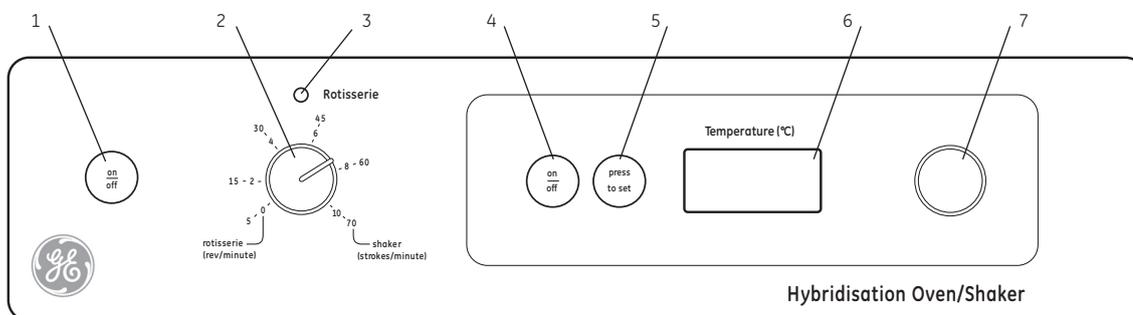

Fig 1. Diagram of instrument control panel
5. Turn the Mains ON/OFF switch (1 on Fig 1) to the ON position.
1. The Oven temperature controls are located on the right hand side of the control panel (numbers 4 to 7 in figure 1).
2. To turn the temperature control ON press the on / off button (4). The LED display (6) will show the current Oven temperature.
3. To set the temperature, press and hold the press to set button (5) and at the same time rotate the temperature selector dial (7) until the required temperature is shown on the digital display (6).
4. Release the press to set button (5) and the temperature display (6) will revert back to the actual Oven temperature.
5. The set temperature can be viewed at any time simply by pressing and holding the press to set button (6)
6. The speed controls are on the left hand side of the control panel (numbers 1 to 3 in figure 1). Turn the Rotisserie/Shaker ON by pressing the on / off button (1). The red indicator light (3) above the speed selector dial (2) will illuminate.
7. Turn the Rotisserie/Shaker speed selector dial (2) clockwise until the desired rotation speed is reached (allowable values are 2–10 rpm).